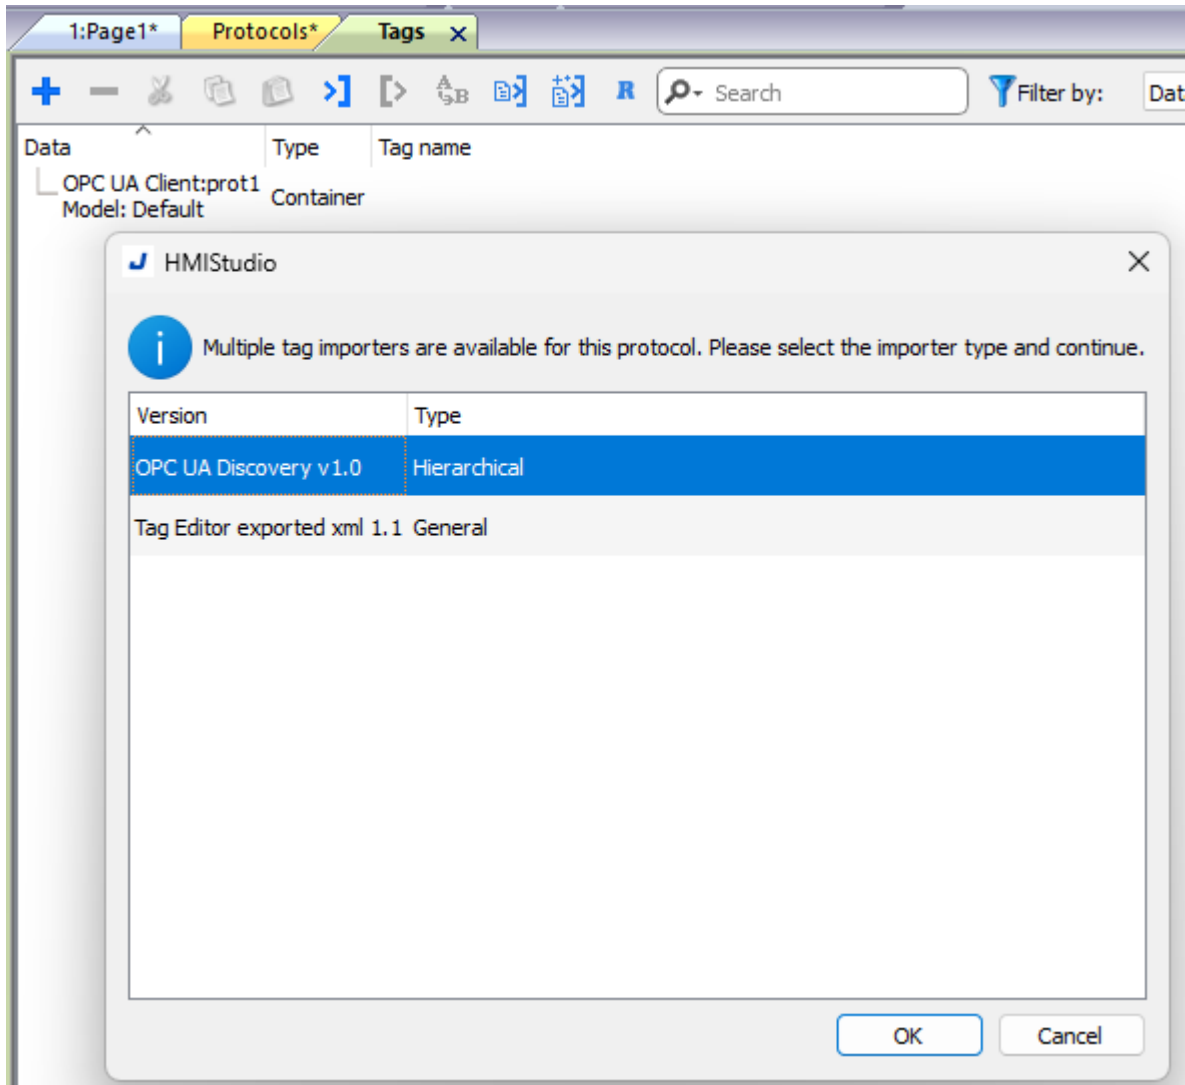

Figure 3-35: HMISudio dialog box
17. Accept the default selection of OPC UA Discover v1.0. (Figure 3-35)